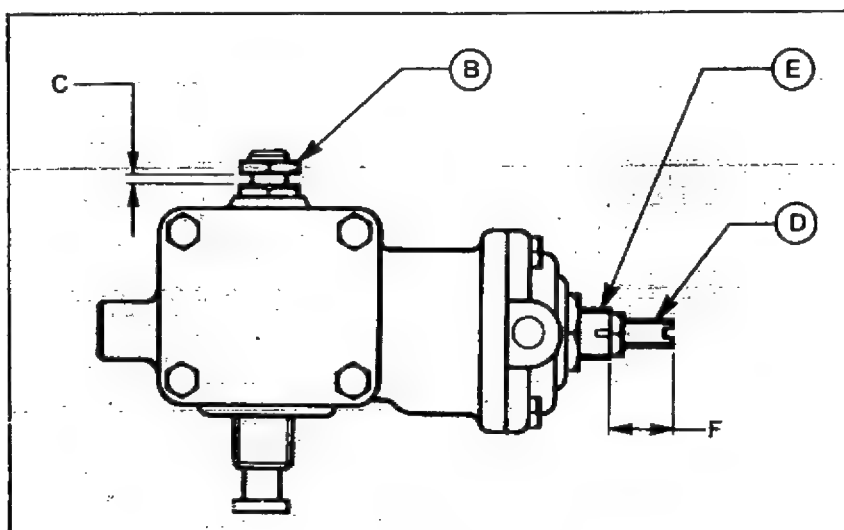

Fig. 64 Recalibration
- (a) Adjust the maximum fuel screw 'B' Fig. 64, to give an average delivery at 1000 r.p.m. of 17.9 to 18.1 c.c's (Hartridge 1100) or 17.3 to 17.5 c.c's (Hartridge 650) with 0.85 bar (0.86 kgf/cm² or 12.3 lbf/in²) boost pressure.
- (a) Set the gap between head of maximum fuel screw 'B' Fig. 64 and locknut to 2.00 ± 1.00 mm. (0.080 ± 0.040 in.).